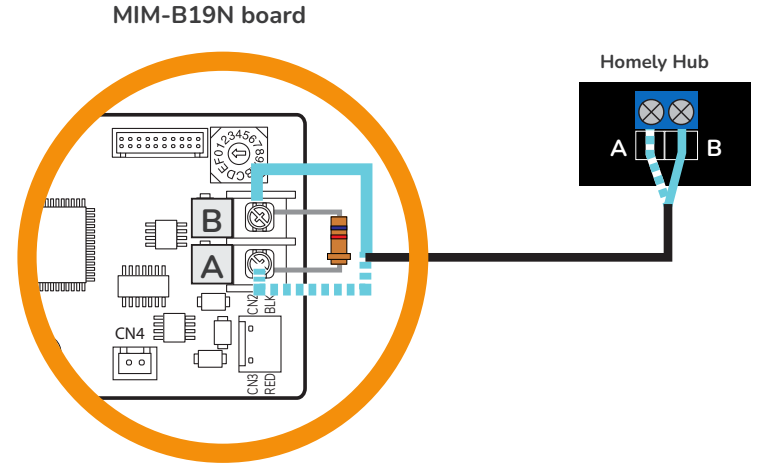

figure 4
3. The supplied 120-ohm resistor must be placed between the A and B terminals of the MIM-B19N as shown below (figure 4).